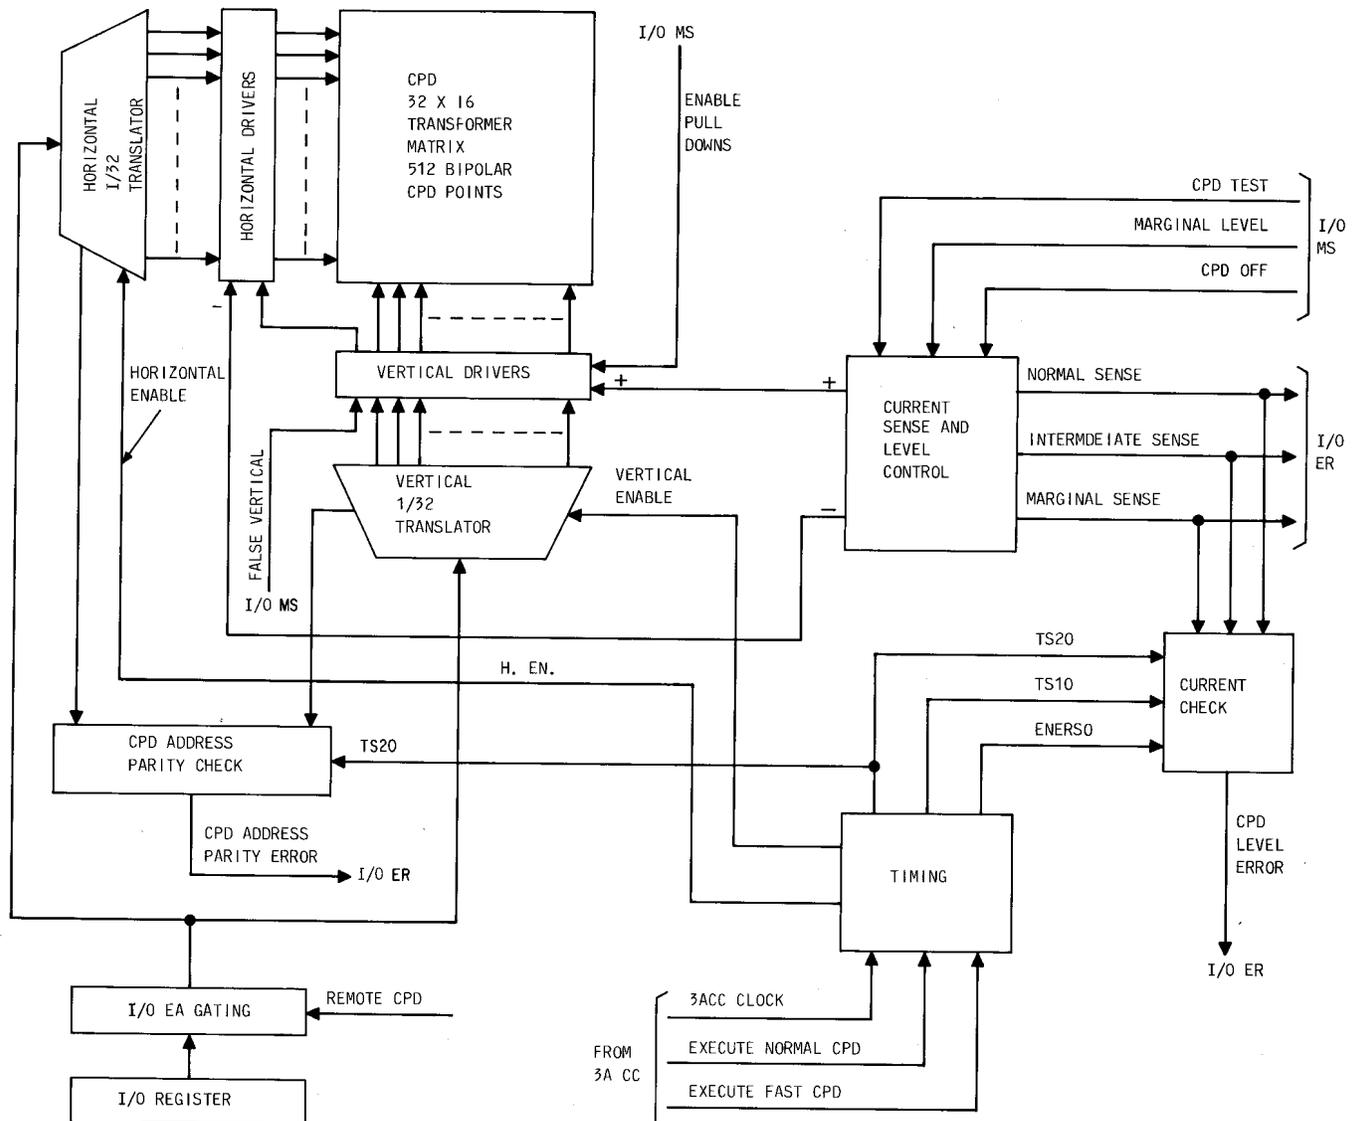

Fig. 4—Central Pulse Distributor
**3.06** CPD Point Selection—A CPD point is selected in two stages using a matrix scheme as illustrated in Fig. 4. Horizontal and vertical translation is performed by 1A-type logic. Each translator selects 1-out-of-32 points by decoding 5 bits in the I/OEA register. The vertical lead is the first to be selected and the last to be turned off. The horizontal lead determines the timing of the CPD pulse and enables the CPD pulse in the timing window created by the vertical pulse.
**Register**—The I/OEA register (Fig. 4) is used to store CPD address information. The I/OEA register can be loaded only from R10 and is the only register in the I/O control circuit that contains 16-data bits and two parity bits. The parity bits are used in the error check circuits which are described in 4.06. The CPD address information stored in the I/O EA is divided into two fields. Bits 6-15 contain address information that is used for the selection of a CPD output in the local CPD matrix. Two of bits 0-5 contain address information that is used to select a CPD output that enables a supplementary CPD (SCPD1) frame when the I/O circuit is in the remote mode. The two bits used for the SCPD frame enable are not sufficient for a complete CPD point selection; 10 bits are needed for a full selection. Since only a limited number of CPD outputs are needed to select a SCPD frame, four of the CPD address bits are jammed to a constant when the I/O circuit is in the remote mode. Figure 10 shows the arrangement of the EA used for remote and local CPD addressing. The HO through H4 and V0 through V4 designations assigned to bits designate the two fields of five bits used to generate the two 1-of-32 selection. These selections made by the horizontal and vertical translators select the CPD output and polarity of the output pulse (horizontal and vertical selections). (Fig. 10.)